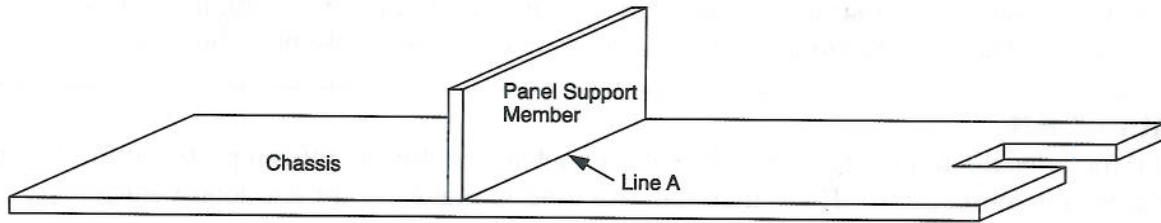

Figure 3
7. Using a cool-melt glue gun, run a small bead of glue along one of the 4" edges of the panel support member and attach it firmly at **Line A** (Figure 3). After it is in place, run an additional bead of glue on each side of the joint between the chassis and the support member.